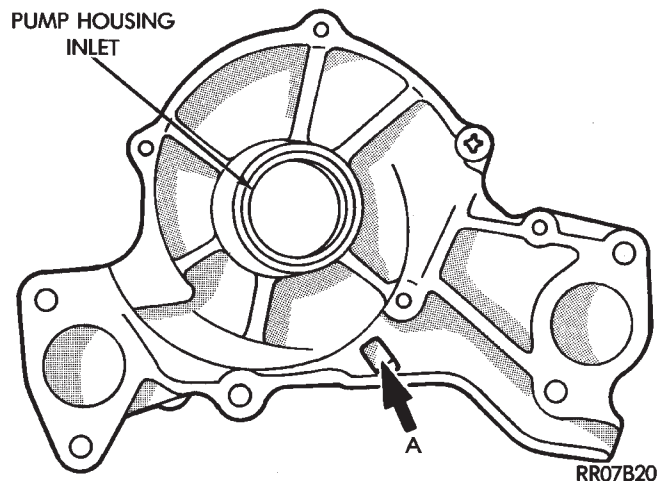

Fig. 5 Water Pump Inspection
- (1) Damage or cracks on the pump body.
- (2) Coolant leaks, if the shaft seal is leaking, evident by traces of coolant leaks from vent hole A in (Fig. 5).
- (3) Impeller rubs inside of pump.
- (4) Excessively loose or rough turning bearing.